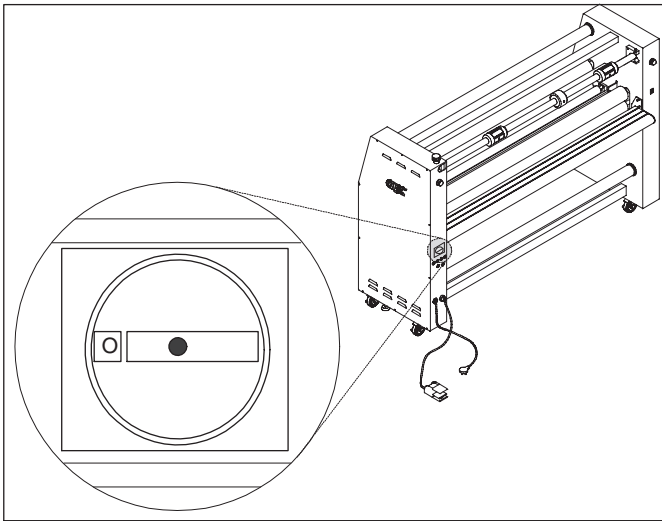

Fig 5
A. POWER ON/ OFF: (Figure 5) Located at the back left of the machine applies power to the laminator. The control panel will illuminate when the switch is rotated to the “I” position. The off position, marked “O”, removes power from the laminator.